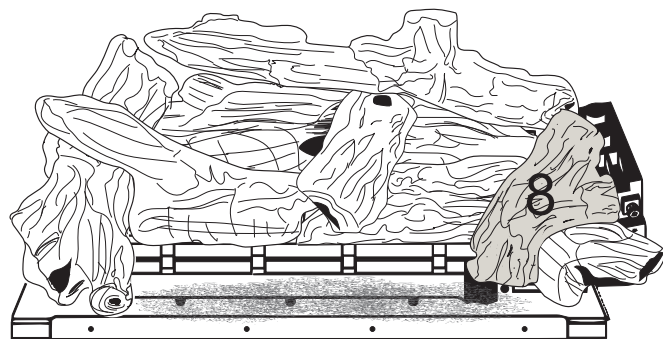

Figure 6.9 - Log #8 Placement
- Hold Log #8 with the branched end away from you. Place log #8 by positioning the pin locator hole on the bottom of the log over the pin on log #1 and by rotating the log counter clockwise to match the notch on the log with the first tine on the grate. See Figure 6.9.